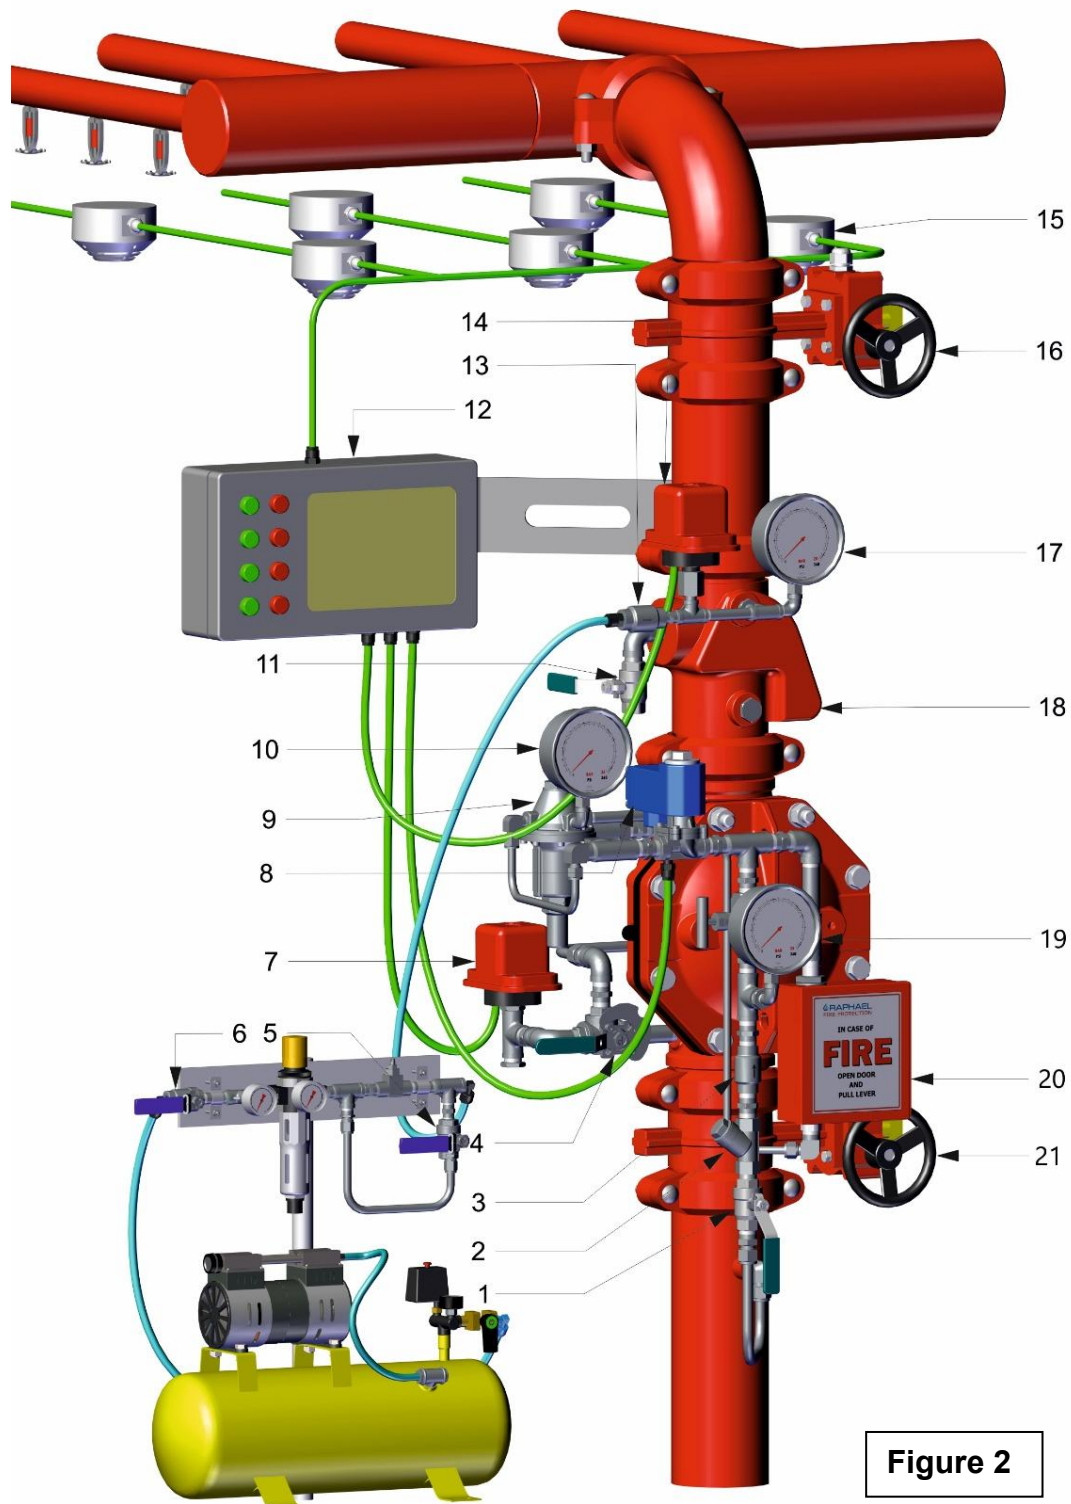

Figure 2
INSTALLATION PARTS LIST (Reference Figure 2)
A series of smoke and heat detectors is installed over the protected area and electrically connected to the main FP control board (12, figure 2).
INSTALLATION (Reference Figure 2)
8. All connections to water supply, alarms etc. should be done in accordance with figure 2:
OPERATING INSTRUCTIONS (Reference Drawing - figure 2)
(Reference Drawing - figure 2)
(Reference drawing - figure 2)
PRPV – Pressure Reducing Pilot Valve setting (9 fig 2):
Resetting & placing in service (Reference Drawing - figure 2)
After a real fire situation, make sure that the SOV is closed by de-energizing its coil (through the FP main control board). (Reference drawing - figure 2)
MAINTENANCE (Reference Figure 2)